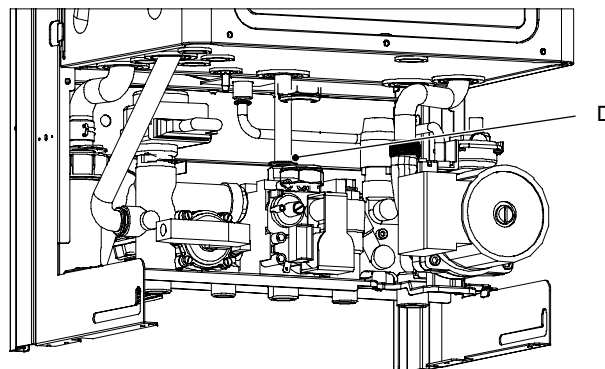

Fig. 17.3
- 4 Unscrew the gas connector *D* (Fig. 17.3)